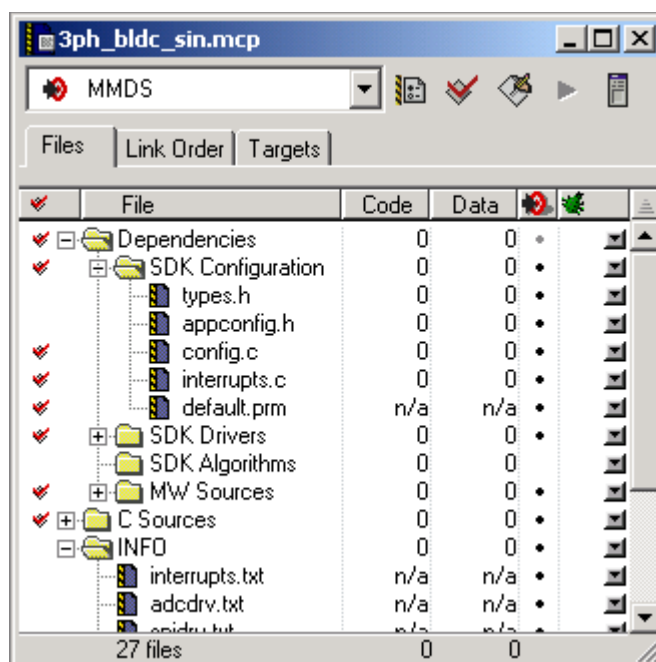

Figure 4. New Project Created from the 68HC08 SDK Stationery
2. Select the required device and required template. This creates a new project (see Figure 4) including:
1. Copy the configuration items from the *driver “name.txt”* e.g. “pwmdrv.txt” to the “appconfig.h” file. The files can be found in the project window (see Figure 4).